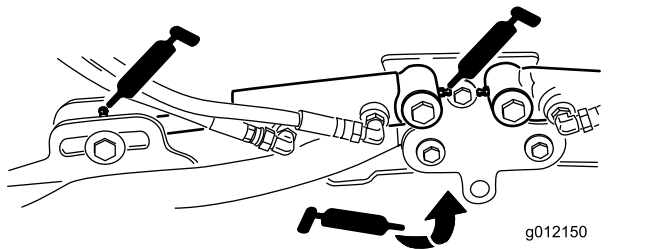

Figure 39
- Cutting unit lift-arm cylinders (2 each) (Figure 39)
- Lift-arm pivots (1 each) (Figure 39)